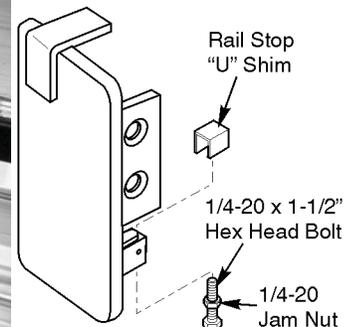

Figure 44
8) See **figure 44**. Install the stop shim (2), 1/4-20 x 1 1/2 hex head tap bolt (3), and 1/4-20 hex jam nut (4) onto the rear rail stop. Thread the bolt through the mounting lug until the stop shim (2) is pressed firmly against the underside of the middle track. Tighten the jam nut against the lug to prevent the bolt from backing out.